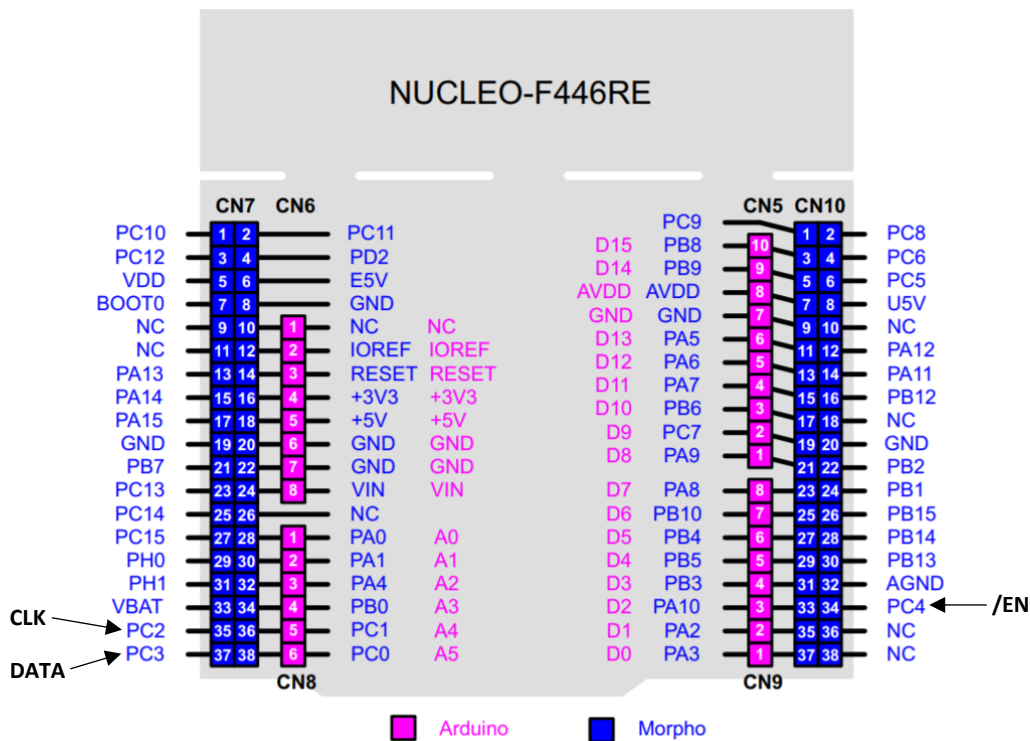

Figure 2: NUCLEO-F446RE pin layout with associated Si41xx connections
1. Connect the serial interface between the Si41xx evaluation board and the NUCLEO-F446RE development board. Refer to Figure 2 in the Appendix for the complete NUCLEO-F446RE pin layout.